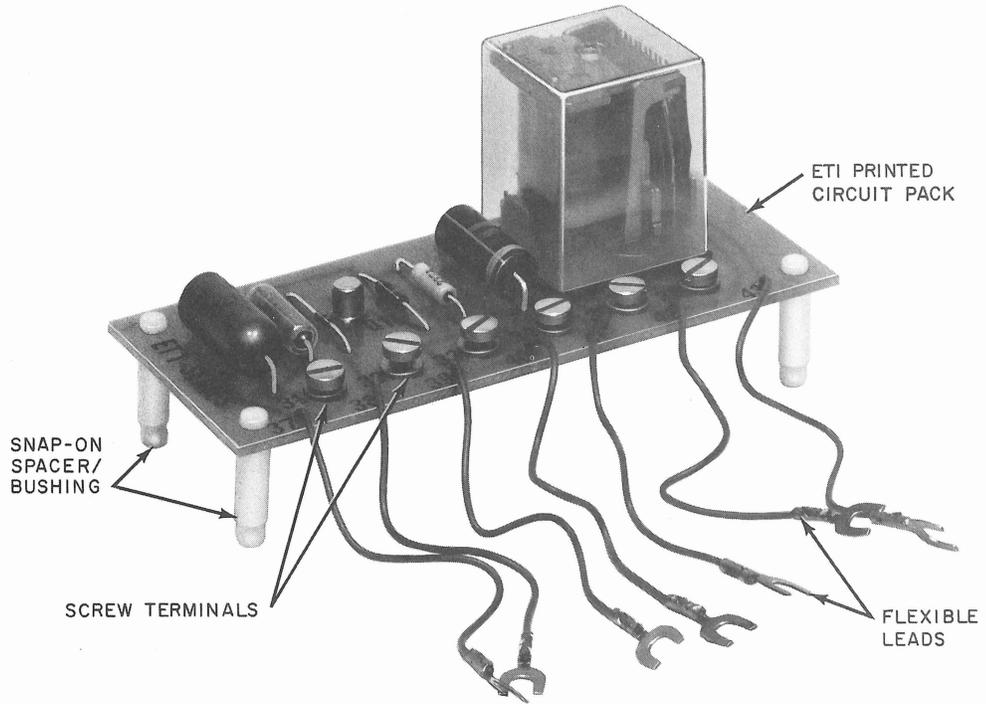

Fig. 13—ET1 Circuit Pack
3.15 Two additional arrangements can be implemented by using an ET1 circuit pack (Fig. 13) with DAS 830B. The circuit pack provides: